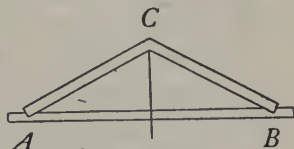

FIG. 71.—A truss.
11. A truss (see Fig. 71), carries a load of 1000 lbs. at C . Find the forces acting along AC , BC , and AB . If AC and BC are each 12 ft. and AB 20 ft., which of these forces are tensions and which are pressures?